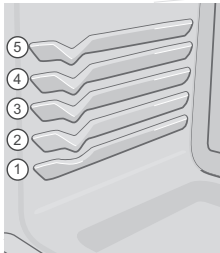

Figure 17: Rack positions
- 5. Place food in the oven after 2 minutes to rack position recommendations (Table 3) and (Figure 17). Be sure to place pan with the meat directly under the broil element and close the oven door during broiling.